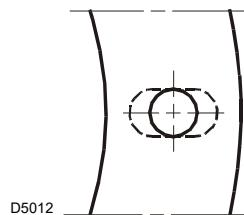

Fig. 10
- if necessary, widen the holes of the insulating gasket (Fig. 10), taking care not to damage it.